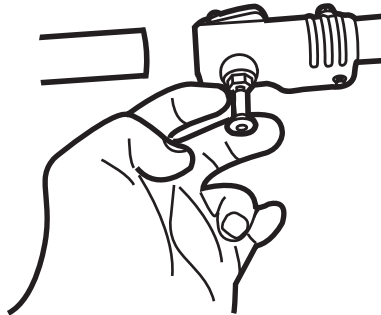

Fig. 2b
c). Pull out the locking pin (A13) and insert the extension (A21) into the clamp (A12). Release the locking pin and ensure it engages in the hole. (See Fig. 2b)